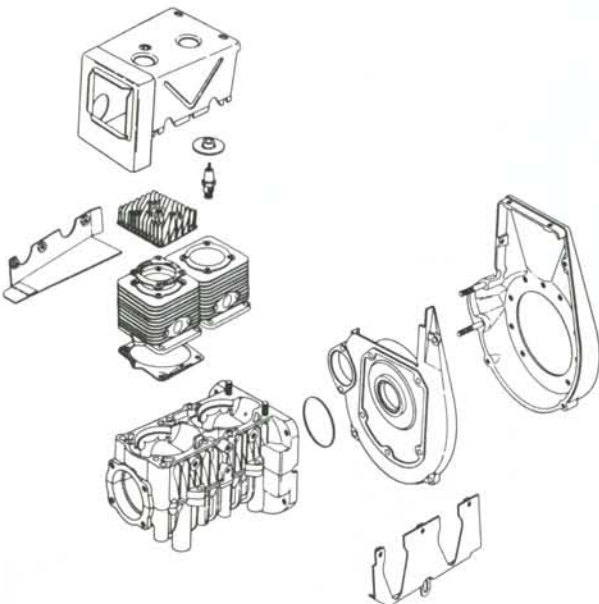

Fig. 4—Exploded view of major housing components used on centrifugal fan models.
**CENTRIFUGAL FAN MODELS.** Refer to Figs. 4 and 5 for exploded views of engine. If the Engine Specification number has seven digits and the last two are 05 or lower, the engine has metric threads. All other engines have U.S. Standard threads. As an example, metric threads will be found on K399-2 and K618-2 engines.